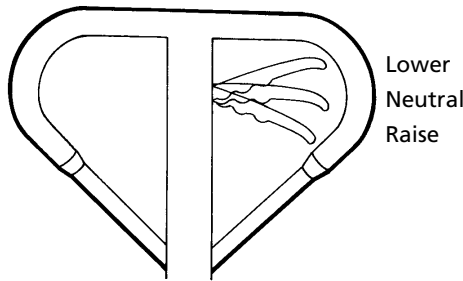

Figure 7 – Control Lever
6. Position Up/Down control in LOWER or "up" position (See Figure 7). Pump handle several times to release air from pump.
The three position control lever is operated as follows: (See Figure 7)